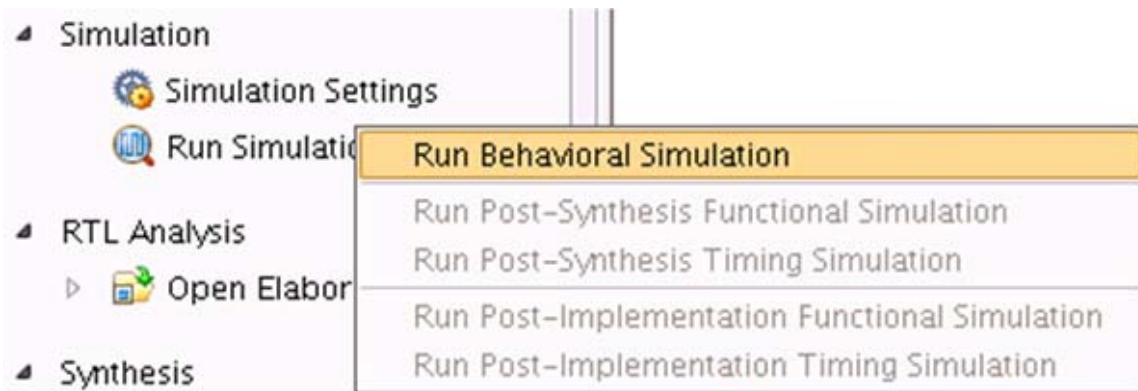

Figure 4-40: Run Behavioral Simulation
- In the **Flow Navigator** window, select **Run Simulation** and select **Run Behavioral Simulation** as shown in Figure 4-40.
4. In the **Flow Navigator** window, select **Run Simulation** and select **Run Behavioral Simulation** as shown in Figure 4-40.